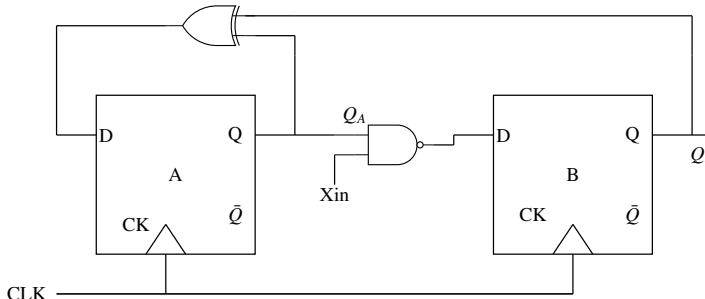

Fig. 6.11
7. A finite state machine (FSM) is implemented using the D flip-flops A and B, and logic gates, as shown in Fig. 6.11 below. The four possible states of the FSM are  $Q_A Q_B = 00, 01, 10 and }11.$